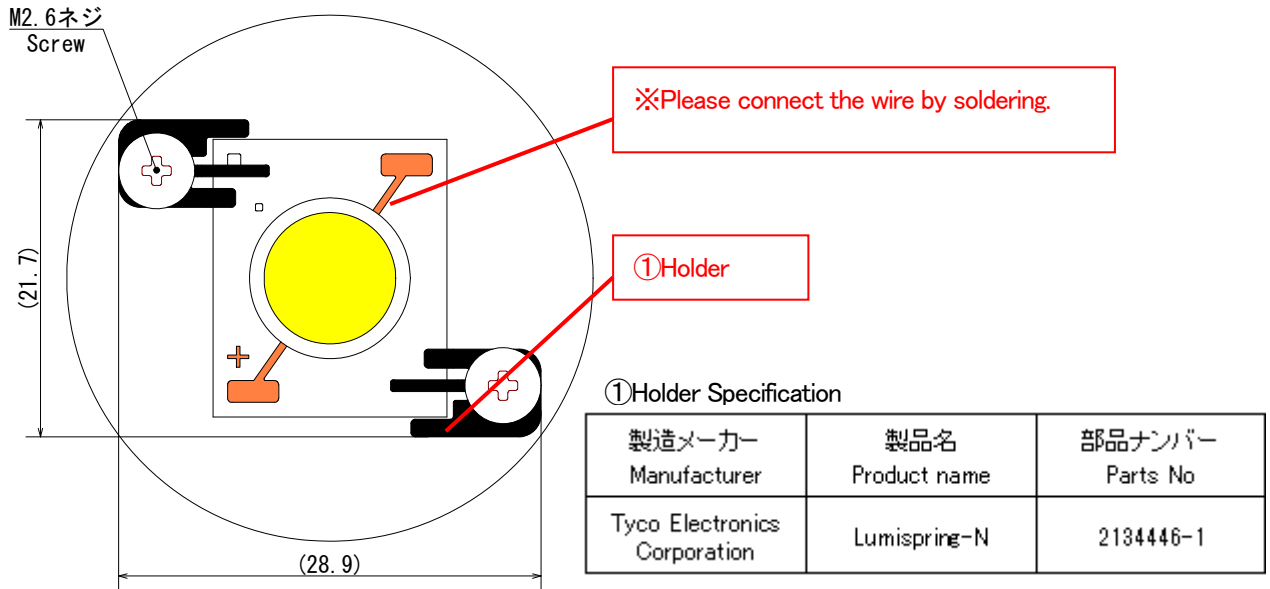
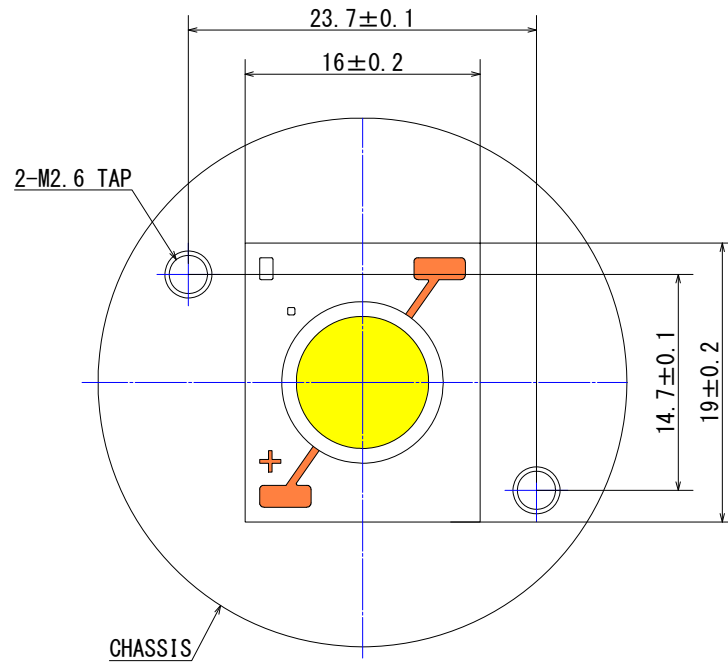

Figure 8 Specification drawing of the COB holder (Lumispring-N)
Figure 9 Recommend dimensions of COB and Chassis
Figure.8 shows the specification drawing of the COB holder, Figure 9 shows the recommended dimensions when using with the COB.
For the COB holder above (2), it is necessary to solder an electric wire to the COB's electrode as in Figure 8. Please be careful of the following when soldering.